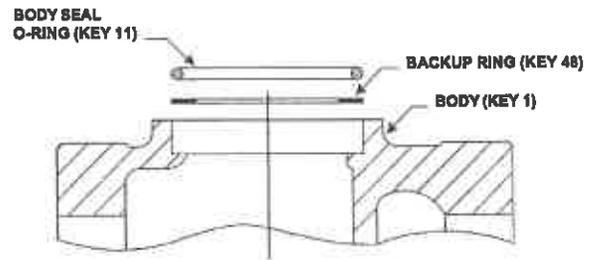

Figure 2. Expanded View of the Body Area Showing the Body Seal O-ring and Backup Ring Placement
1. Remove the cap screws (key 2) and separate the diaphragm casing (key 4) from the body (key 1).
2. Remove and inspect the body seal O-ring (key 11) and the backup ring (key 48). See figure 2.
3. Inspect and replace the orifice (key 5) if necessary. Protect the orifice seating surface during disassembly and assembly. Lubricate the threads of the replacement orifice with a good grade of light grease and install with 29 to 37 foot-pounds (39 to 50 N·m) of torque.
4. To replace the disk assembly (key 13), remove the cotter pin (key 15). If not necessary, skip to step 7.
6. Install the disk assembly (key 13) and secure it with the cotter pin (key 15).
7. Place backup ring (key 48) into the body (key 1). Then place the body seal O-ring (key 11) into the body. See figure 2.
8. Place the diaphragm casing (key 4) on the body (key 1). Secure the diaphragm casing to the body with the cap screws (key 2) using 7 to 9 foot-pounds (9 to 12 N·m).